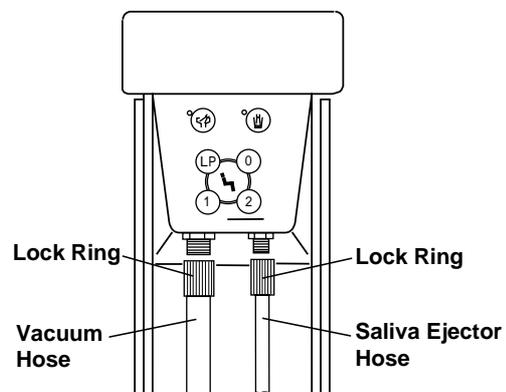

Fig.5-3 Vacuum and Saliva Ejector Hose
B. Remove the hoses from the cuspidor body by turning the lock rings counterclockwise and clean them. (Fig.5-3)